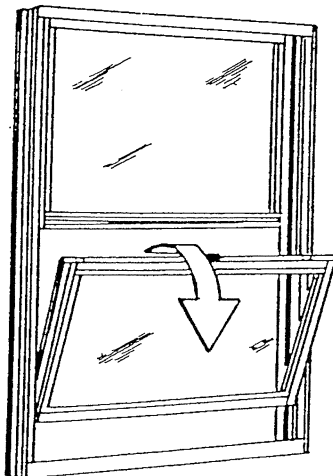

Figure 3
4. With tilt latches disengaged pull bottom window sash toward you so that it will tilt into the opening. (Figure 3)